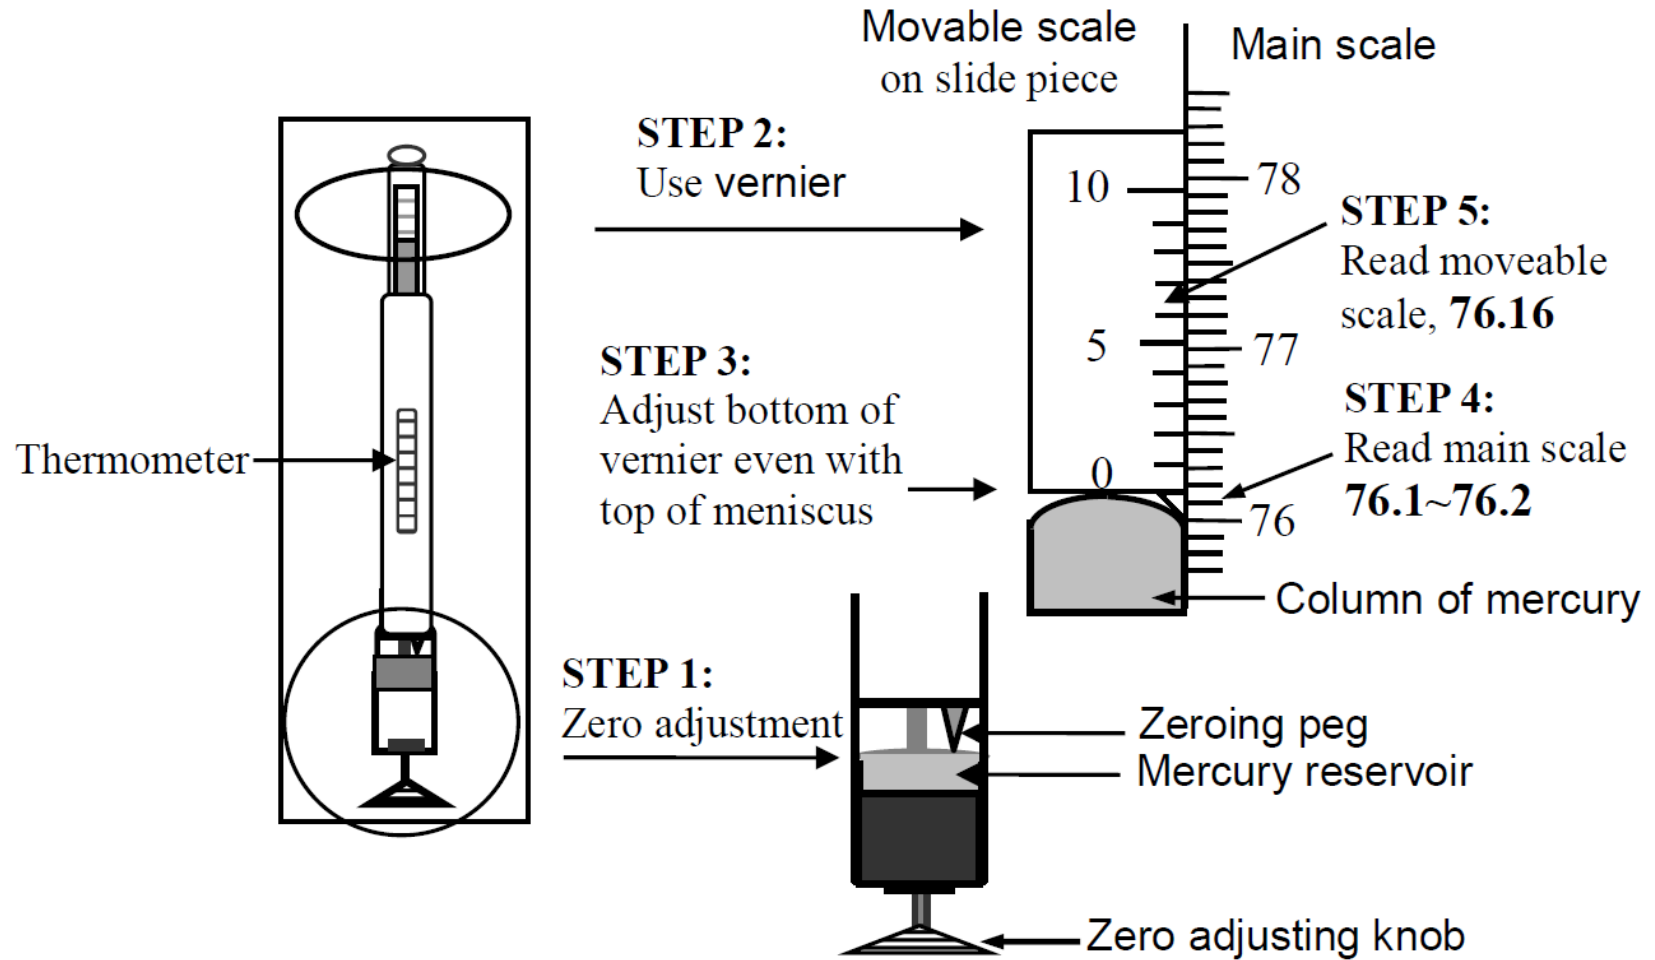

Figure T3-1 Illustration of mercury barometer
- Read the main scale on the right of vernier. As in Fig. T3-1, the bottom of slide piece indicates the height of mercury is between 76.1 cm and 76.2 cm.